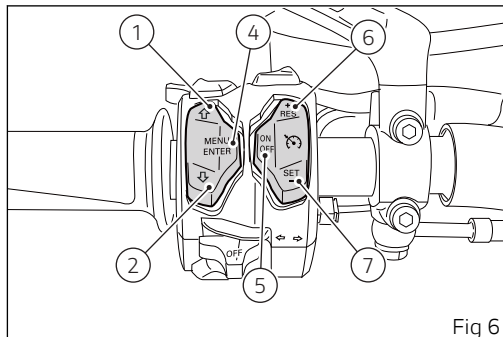

Fig 6
6) CRUISE CONTROL BUTTON - RES (Resume) / + (more) (Fig 6)
7) CRUISE CONTROL BUTTON - SET (Setup) / - (less) (Fig 6)